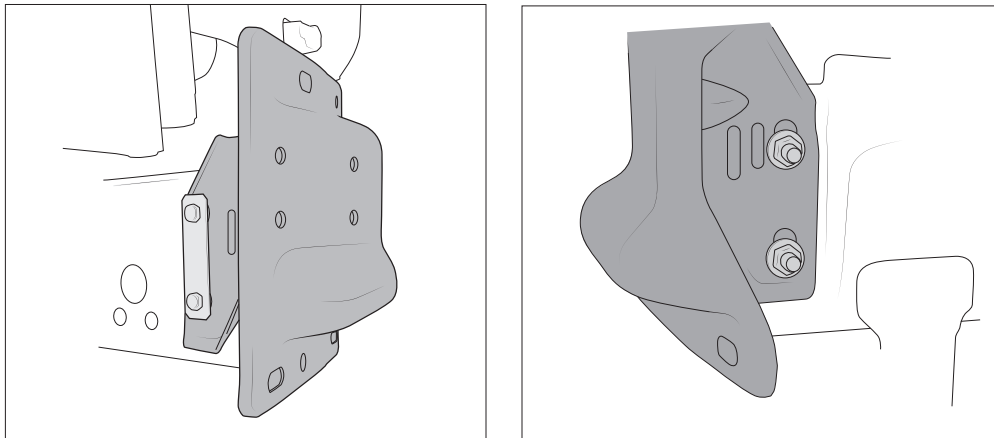

Figure 12
16. Remove the remaining bumper brackets and **save hardware** (fig. 12).